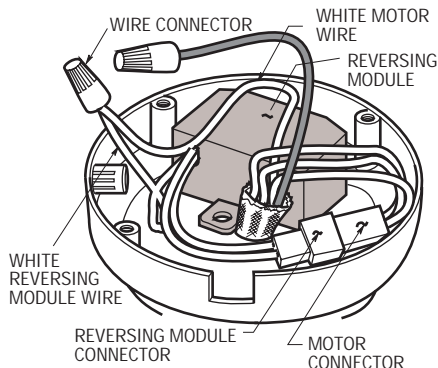

Figure 6
- 9. Position the reversing module (supplied) in the switch cup; connect the reversing module connector to the motor connector (Figure 6). The connectors are color-coded and keyed and can be connected in only one manner.**
- 10.** Using a wire connector (supplied), connect the white wire from the motor to the reversing module white wire (Figure 6).